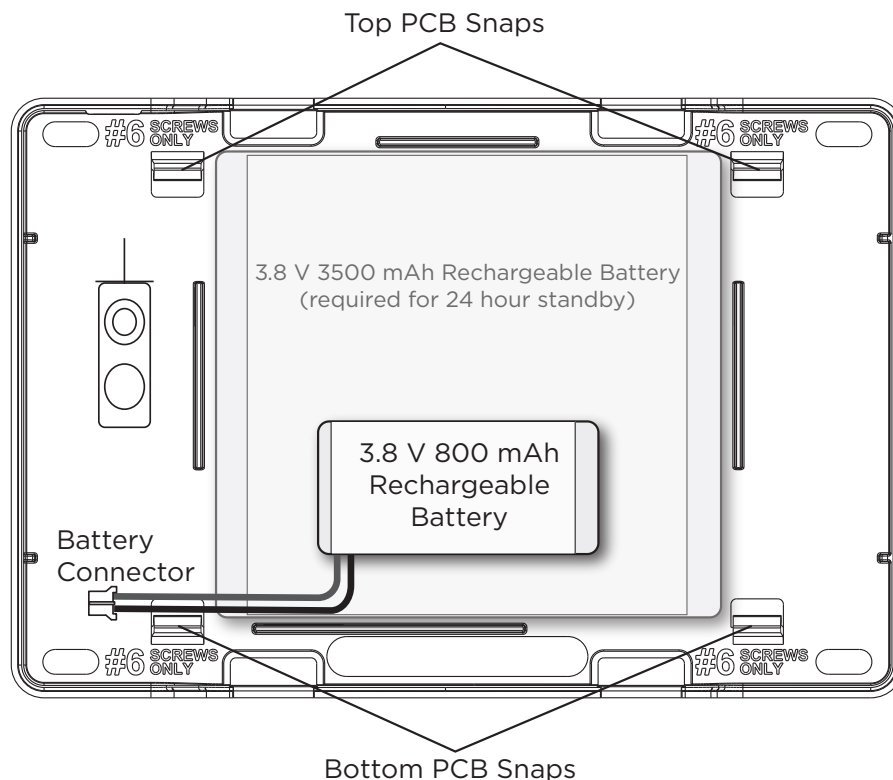

Figure 3: Standby Battery Replacement
The XTLplus 800 mAh rechargeable battery is used to provide 4 hours of standby battery power when DC power is not available. The battery is intended for backup power only and not to operate the panel on a daily basis. If the battery is low, or not plugged into the BAT battery connector, a low battery condition is indicated by the panel. If 24 hour standby battery power is needed, connect the 3500mAh battery. See Figure 3.
5. Place the new battery into the XTLplus housing base with the battery wires directed toward the bottom left corner. See Figure 3.